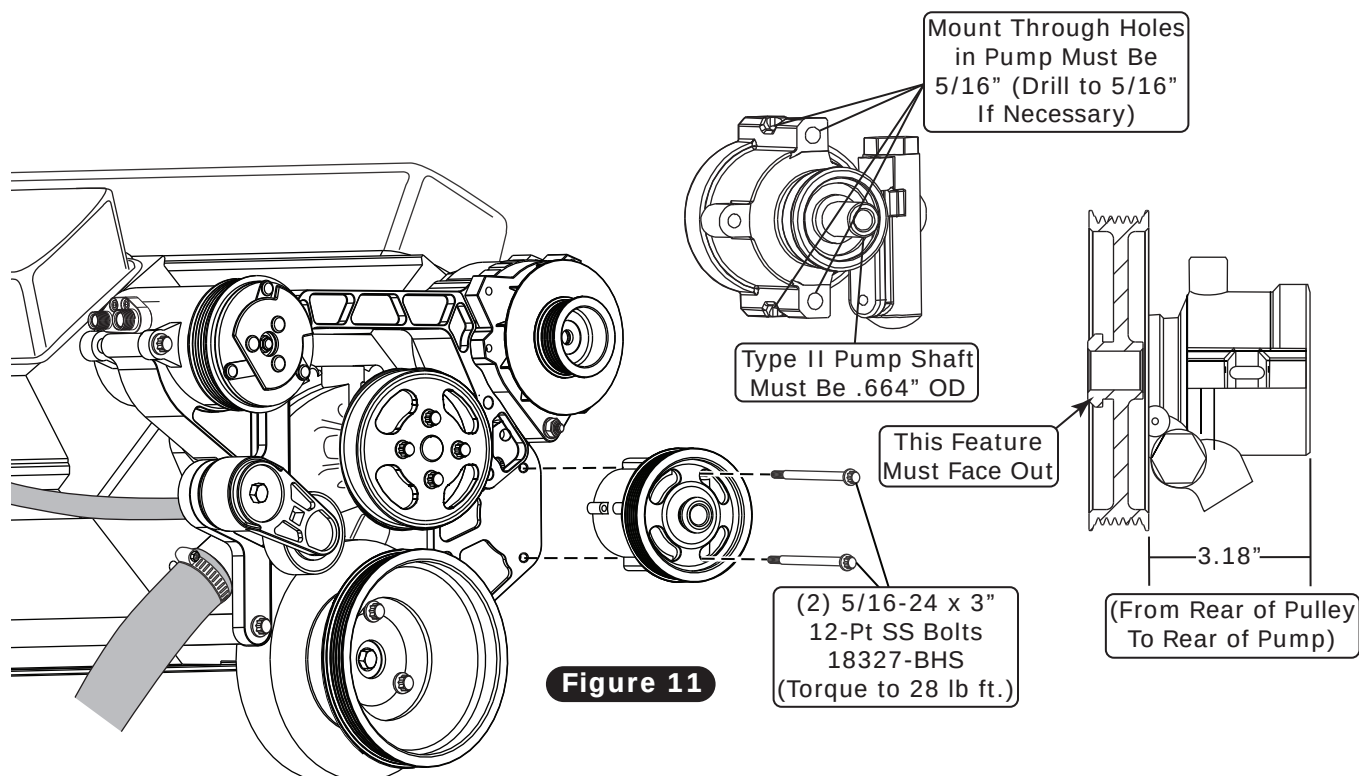

Figure 11
- Some Type-II GM power steering pumps (non-Vintage Air pumps only) have threaded mounting bases. These must be drilled out to allow the Front Runner mounting bolts to pass through the holes and thread into the bracket (See Figure 11, Page 13).
1. Using a power steering pump pulley installer, install the power steering pulley onto the power steering pump (See Figure 11, Page 13).
2. Install the power steering pump using (2) 5/16-24 x 3" 12-Pt SS bolts (See Figure 11, Page 13). Torque to 28 lb ft.